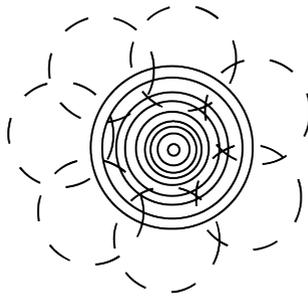

Figure 4
- Correct immersion spacing ensures that the compaction zones overlap perfectly and that no uncompacted areas remain. (Fig. 4)